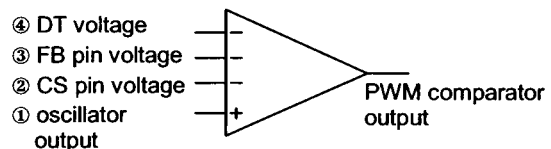
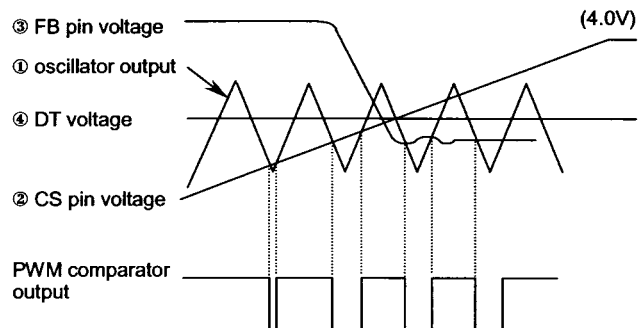

Fig.4 PWM comparator
Fig.5 PWM comparator timing chart
(3) PWM comparator
The PWM comparator has four inputs as shown in Figure 4. Oscillator output ① is compared with CS pin voltage ②, FB pin voltage ③, and DT voltage ④. The lowest of three inputs ②, ③, and ④ has priority and is compared with output ①. While the voltage is lower than the oscillator output, the comparator output is high. While the voltage is higher than the oscillator output, the PWM comparator output is low (see figure 5). The IC OUT pin voltage is high while the PWM comparator output is low.